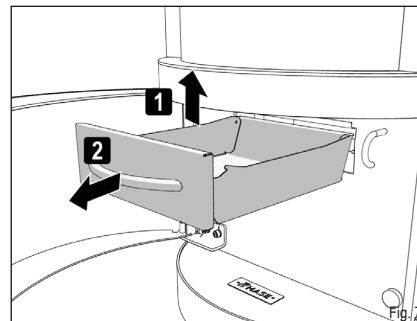

Fig. 7
- ▶ Pull the ash drawer out of the opening by the handle (Fig. 7).